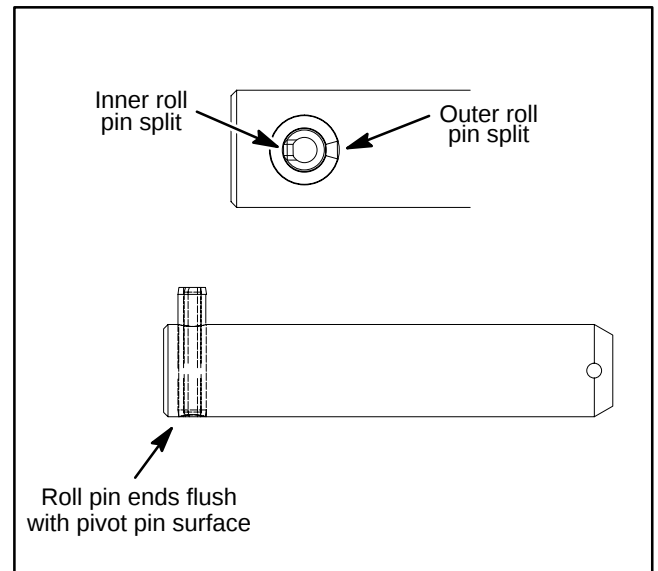

Figure 15
- A. If roll pins (items 13 and 14) were removed from pivot pin (item 15), install roll pins so that one end is flush with pivot pin. Also, inner roll pin split should be opposite outer roll pin split (Fig. 15).